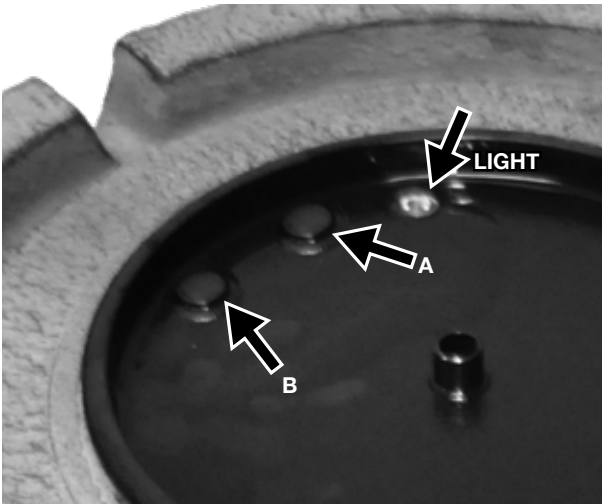

Figure 5
- **Press the B Button 1 time:** Will program the fountain to run for 1 hour each day at the same time. The light (Figure 5), will flash once to confirm your selection.
- **Press the B Button 2 times:** Will program the fountain to run for 2 hours each day at the same time. The light (Figure 5), will flash twice to confirm your selection.
- **Press the B Button 3 times:** Will program the fountain to run for 3 hours each day at the same time. The light (Figure 5), will flash 3 times to confirm your selection.
- **Press the B Button 4 times:** Will program the fountain to run for 4 hours each day at the same time. The light (Figure 5), will flash 4 times to confirm your selection.
- Press the A button twice to clear out any timers programmed into the B Button. If you want to reset the timer, set the B Button Programing as in the "Programing The Fountain" Section above (Figure 5).